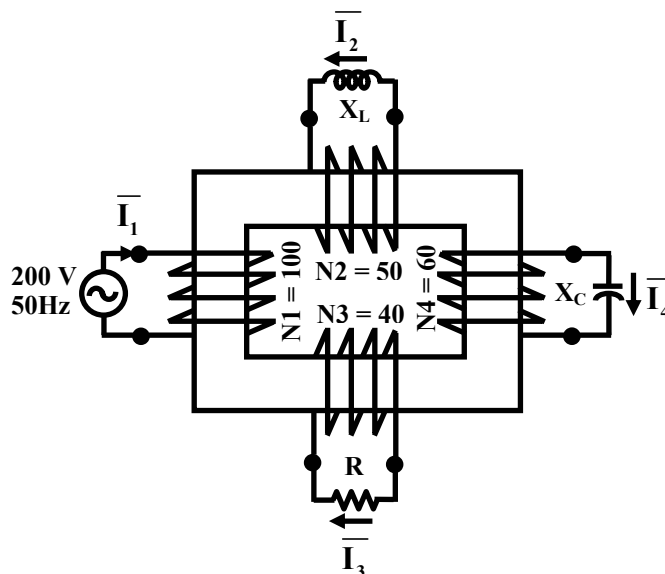

Figure 23.10:
2. In the Figure 23.10, a 4-winding transformer is shown along with number of turns of the windings. The first winding is energized with 200 V, 50 Hz supply. Across the 2nd winding a pure inductive reactance  $X_L = 20 \Omega$  is connected. Across the 3rd winding a pure resistance  $R = 15 \Omega$  and across the 4th winding a capacitive reactance of  $X_C = 10 \Omega$  are connected. Calculate the input current and the power factor at which it is drawn.